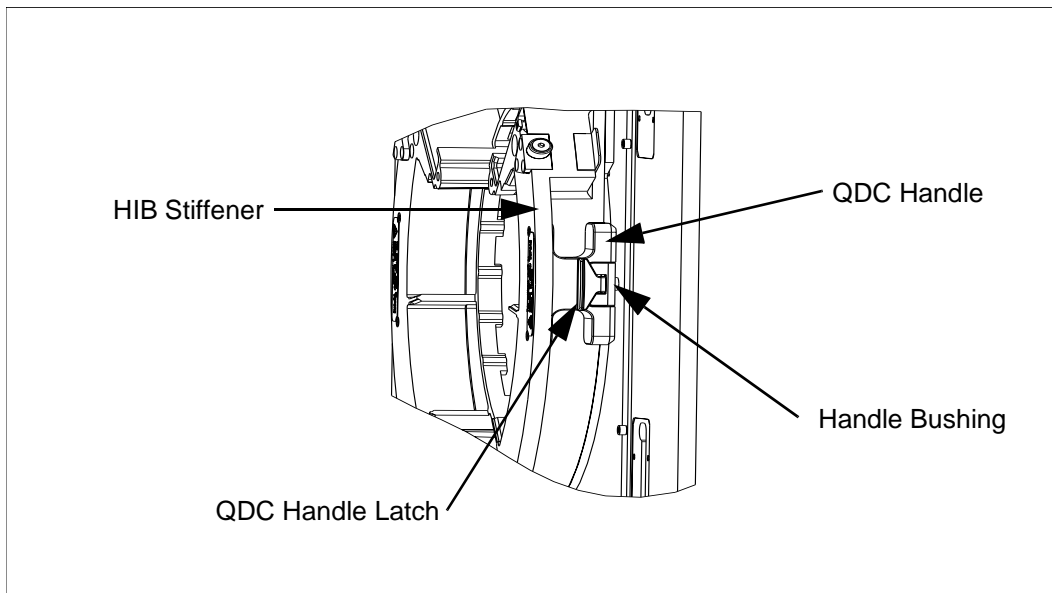

Figure 18 Location of the QDC Handle Latches (only one shown)
- 2) Grasp the latch on the QDC handle and pull the latch toward you (see Figure 18).